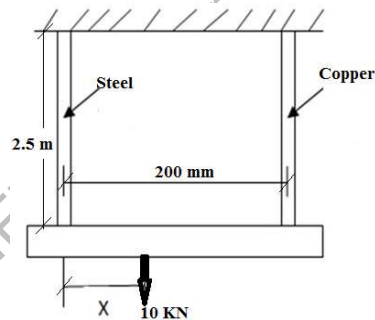

Fig.3
- 5 Two vertical rods one of steel and the other of copper are rigidly fastened at their upper end at a horizontal distance of 200 mm as shown in fig.3. The lower ends support a rigid horizontal bar, which carries a load of 10 kN. Both the rods are 2.5 m long and have cross sectional area of  $12.5 \text{ mm}^2$ . Where a load of 10 kN should be placed on the bar. So that it remains horizontal after loading. Also find the stress in each rod. Take  $E_s = 200 \text{ GPa}$  and  $E_c = 110 \text{ GPa}$ . Neglect the bending of the cross bar. 8